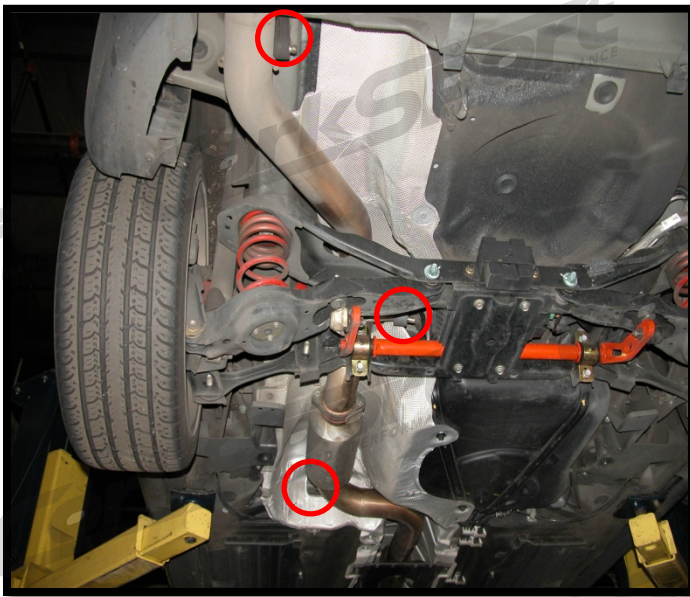
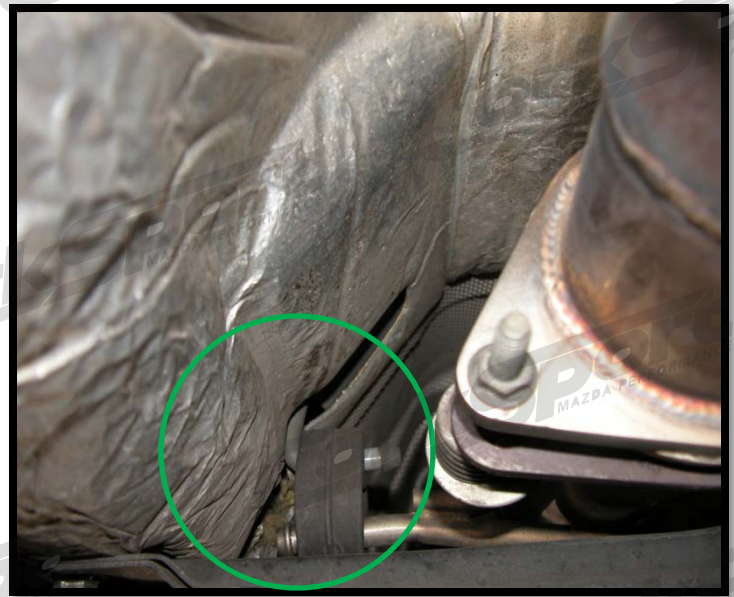

Figure 2A
Figure 2B
A) The location of each of the hangers are shown in Figure 2a and 2B. The **red circles** in **Figure 2A** indicate locations for the twist in hangers and the **green circle** in **Figures 2B** indicates the location for the 10mm hanger under the mid-chassis brace.
B) Remove the mid chassis-brace for access to 10mm exhaust hanger (shown under **green circle** in **Figure 2B**) to access the exhaust hanger underneath. Removal instructions can be found in our knowledgebase.